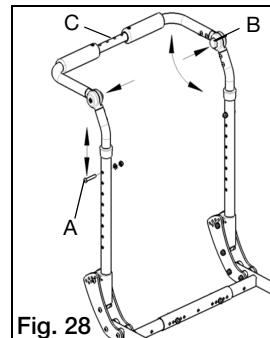
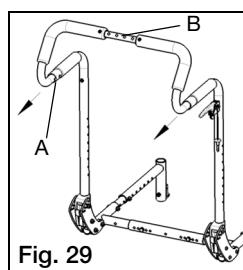

Fig. 28
Fig. 29
- If chair is equipped with a height adjustable backrest, remove both screws (Fig. 28:A) of the telescoping backrest tubes using a 4mm Allen wrench and a 10mm wrench.
- If chair is equipped with a height adjustable backrest, push buttons of locking hinges (Fig. 28:B). Both buttons must be pressed simultaneously to adjust angle.
- Depress buttons (Fig. 29:A) on both sides of chair toward lower end of stroller tubes to disengage locking tabs.
DANGER: Do not attempt to lift or tilt the wheelchair by holding the center strut that joins the Adjustment Height Back push handles (Fig. 28:C) or the center strut that joins Removable Stroller Handle push handles (Fig. 29:B). These struts may break resulting in a fall or loss of control and may cause serious injury or death.